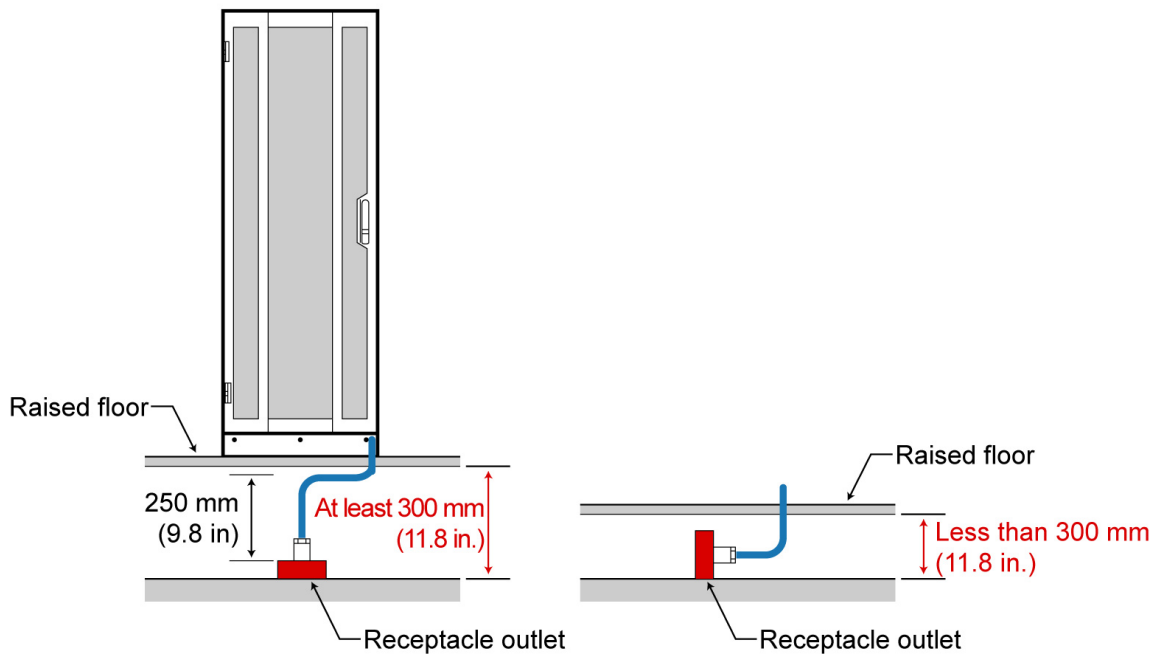

FIGURE 2.19 Power cable connections under a raised floor (except in Europe)
For a power distribution box (or the main unit or the PCI_Box) whose power cable is connected under a raised floor, the recommended underfloor height is at least 300 mm (11.8 in.), depending on the connector shape and the radius of the cable loop. (See (1) in FIGURE 2.19 Power cable connections under a raised floor \(except in Europe\).)
If the underfloor height is less than 300 mm (11.8 in.), install the receptacle outlet sideways. (See (2) in FIGURE 2.19 Power cable connections under a raised floor \(except in Europe\).)